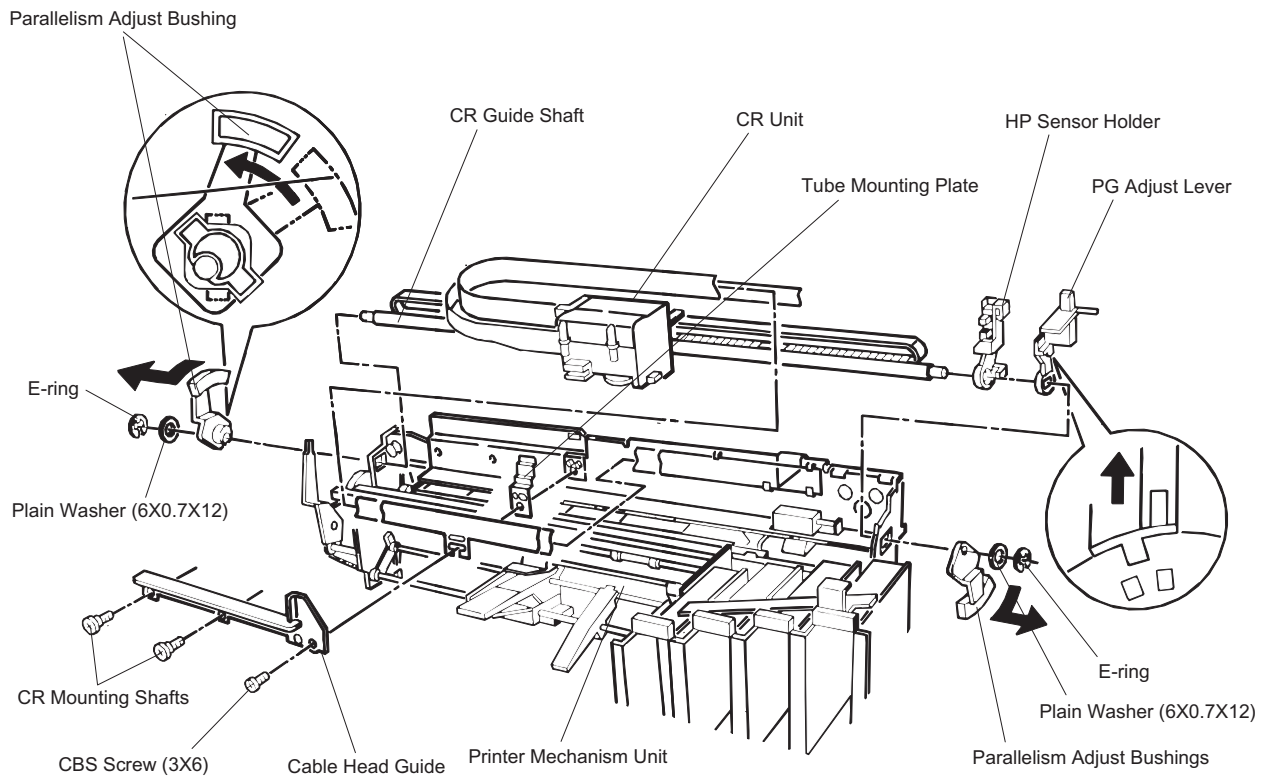

Figure 3-27. CR Unit Removal
- ❑ When installing the CR guide shaft to the printer mechanism unit, fit the PG adjust lever to the cutout on the right frame assembly. (See Figure 3-27.)